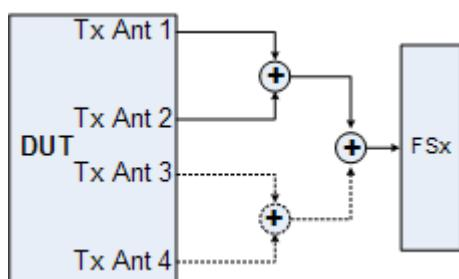

Fig. 8-8: Hardware setup
A typical hardware test setup is shown in figure 8-8. Note that the dashed connection are only required for MIMO measurements on 4 Tx antennas.
- Use a combiner to combine antennas for each carrier (as shown in figure 8-8).